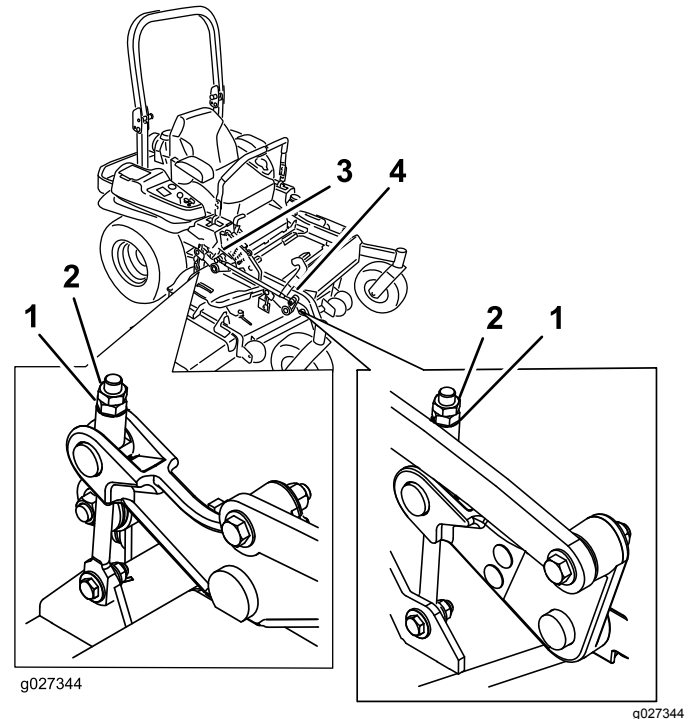

Figure 87
10. For mower decks shown in Figure 87, fine-tune the adjustment nut on the front deck-lift assembly by turning it.